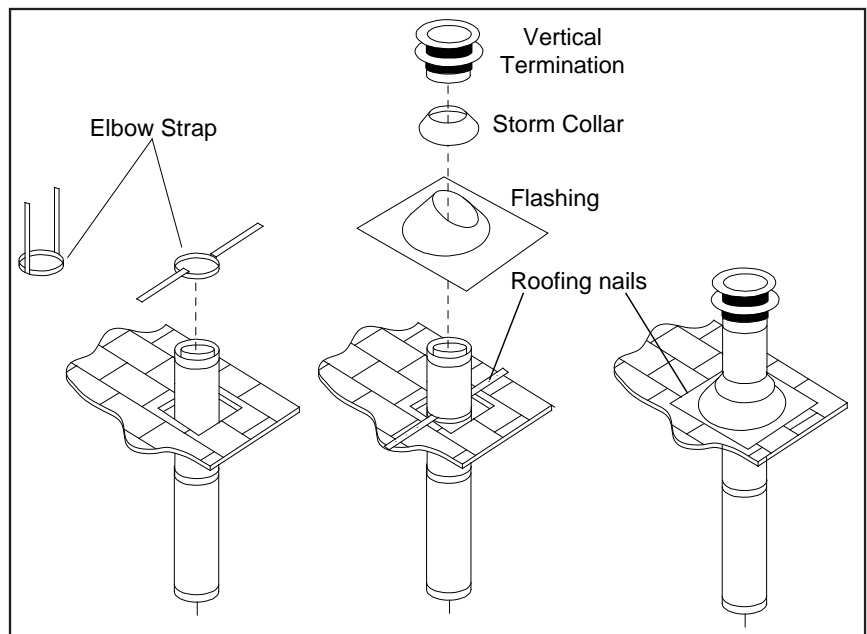

Figure 61: Vertical Vent Termination
- Step 6.** Once the pipe sections have been joined, and run up through the hole in the roof, slip an elbow strap over the exposed sections, bend the support straps outwards, and push the elbow strap down to the roof level, as shown in Figure 61. Tighten the clamp around the pipe section. Use a level to make sure the pipe is truly vertical. With roofing nails, secure the support straps to the roof. Seal the nails holes heads with non-hardening mastic. Trim the excess length of the support straps that extend out beyond the edge of the flashing.
- Step 9.** Slip the storm collar over the pipe, and push it down to the top of the roof flashing as shown in Figure 61. Use the non-hardening sealant around the joint between the pipe and the storm collar.